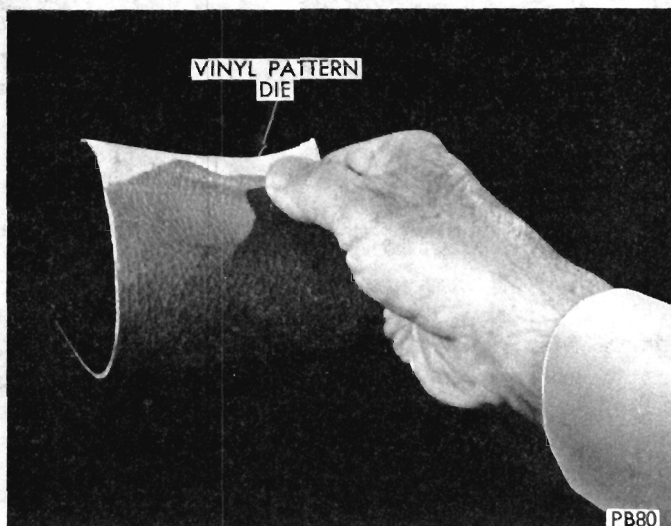

FIG. 5 Removing Vinyl Pattern Die
(5) Allow it to air dry five more minutes then trim off the rough edges to suit (Fig. 5).
(6) You now have a permanent graining tool. If it should become rigid at any time, just apply a little heat from the heat gun to restore its flexibility. The graining tool may be made large or small, but for best results it should extend two inches in every direction around the repair to produce a feathered edge effect. Once the graining tool is made it can be used over again on similar vinyl pattern repairs through out the remainder of the year.